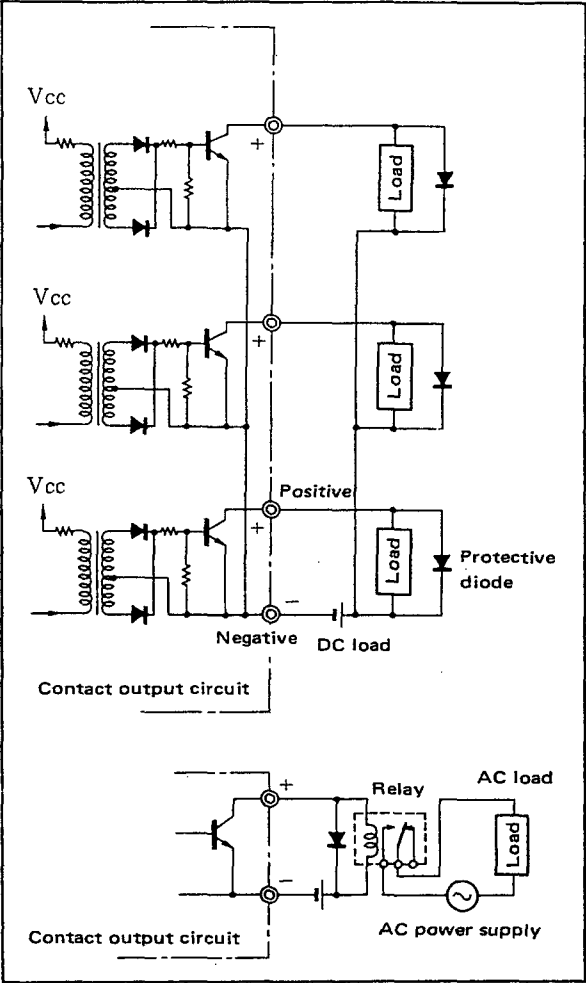

Figure 3-1-3. Connection of Contact Outputs.
- (1) Be sure to terminate all cable connections in solderless crimp-on lugs.
- (2) Each status and voltage input must be as per SBSB specifications. Note the limits on conductor resistance, voltage drop in conductors, and voltage (high/low) levels.
- (3) The fail and digital outputs are transistor contact signals (isolated from power supply and other internal circuitry). When connecting external devices, pay attention to the following: (See Figure 3-1-3.)
- When connecting a relay or other such inductive device, connect a surge absorber (protective diode - Figure 3-1-3, CR circuit, etc.) in parallel with the load.
- (4) Use shielded twisted-pair SCCD cable for communication lines (terminals 17, 18).